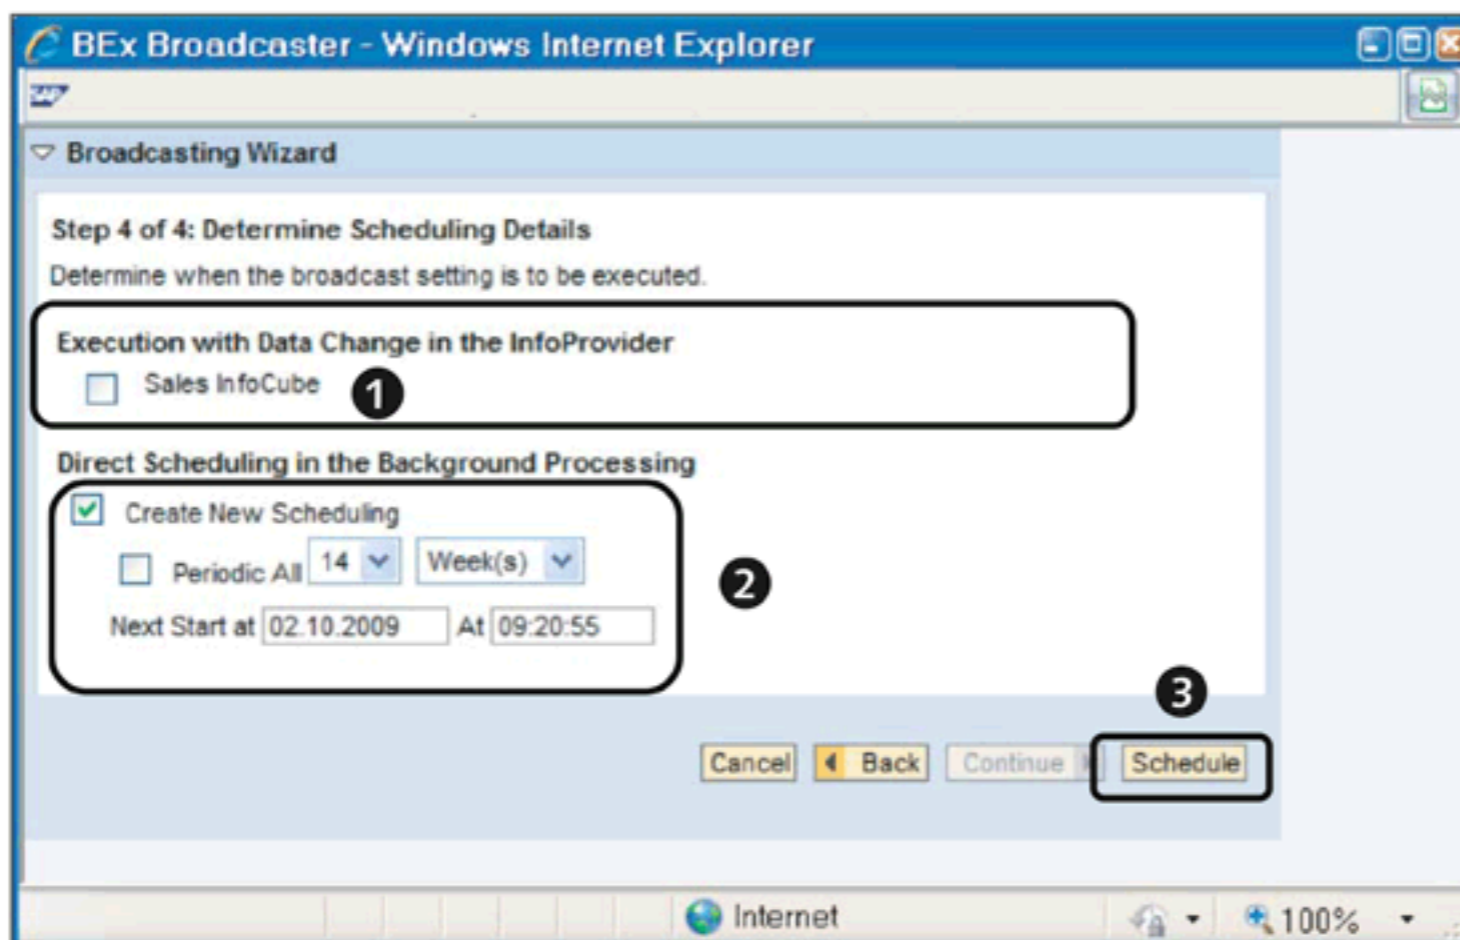

Figure 10.65 BEx Broadcaster: Determine Scheduling Details
On the next screen, you're provided with different options to schedule the broadcasting setting. Selecting the checkbox shown in ❶ of Figure 10.65 executes the setting every time there's a change of data in the selected InfoProvider. Selecting the checkbox shown in ❷ allows you to schedule the background processing of the setting at the predefined time. Click on the SCHEDULE button to save the broadcasting and scheduling settings (❸).